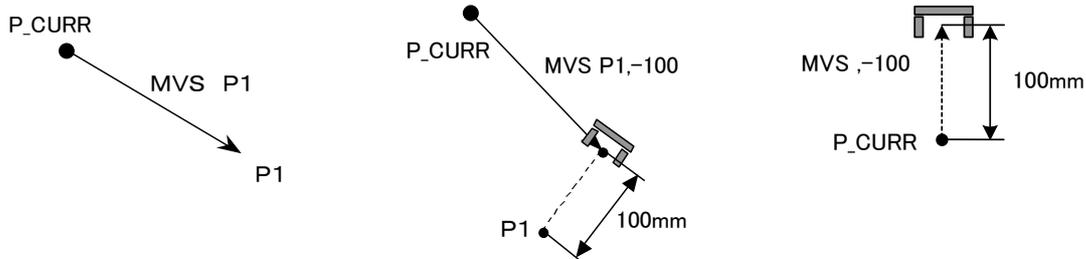

Fig.4-25:Example of movement at linear interpolation
- (1) Linear interpolation motion is a type of movement where the robot moves from its current position to the movement target position so that the locus of the control points is in a straight line.
- (2) The posture is interpolation from the start point to the end point.
- (3) In the case of the tool coordinate system specified by using <proximity distance> or <separation distance>, the + and - directions of the Z axis vary depending on the robot model. Refer to Page 408, "5.6 Standard Tool Coordinates" for detail. The "Fig.4-25:Example of movement at linear interpolation" is the example of RV-6SD movement.